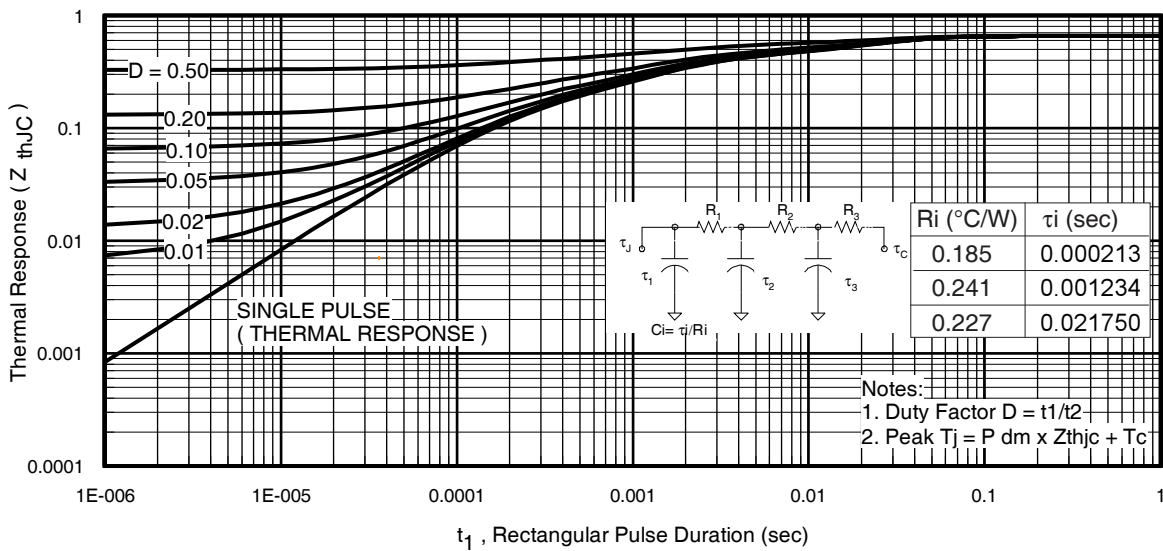
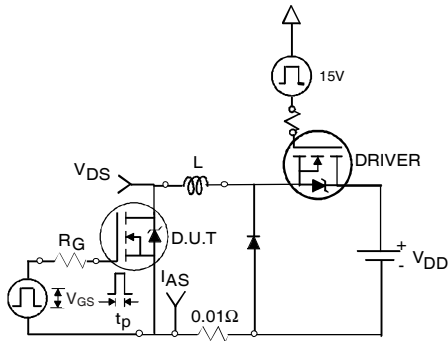

Fig 11. Maximum Effective Transient Thermal Impedance, Junction-to-Case
Fig 12a. Unclamped Inductive Test Circuit
- ① Repetitive rating; pulse width limited by max. junction temperature. (See fig. 11).
- ② Limited by T_{Jmax}, starting T_J = 25°C, L = 0.079mH, R_G = 25Ω, I_{AS} = 75A, V_{GS} = 10V. Part not recommended for use above this value.
- ③ Pulse width ≤ 1.0ms; duty cycle ≤ 2%.
- ④ C_{oss eff.} is a fixed capacitance that gives the same charging time as C_{oss} while V_{DS} is rising from 0 to 80% V_{DSS}.
- ⑤ Limited by T_{Jmax}, see Fig.12a, 12b, 15, 16 for typical repetitive avalanche performance.
- ⑥ This value determined from sample failure population. 100% tested to this value in production.
- ⑦ This is only applied to TO-220AB package.
- ⑧ When mounted on 1" square PCB (FR-4 or G-10 Material). For recommended footprint and soldering techniques refer to application note #AN-994.
- ⑨ Calculated continuous current based on maximum allowable junction temperature. Bond wire current limit is 120A. Note that current limitations arising from heating of the device leads may occur with some lead mounting arrangements.
- ⑩ All AC and DC test condition based on former Package limited current of 75A.
3. Equation below based on circuit and waveforms shown in Figures 12a, 12b.
$Z_{thJC}(D, t_{av})$ = Transient thermal resistance, see figure 11)